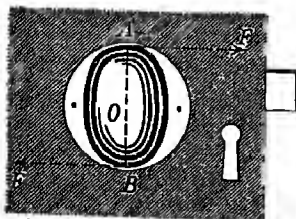

FIG. 151. A door-knob.
When two equal and parallel forces act on a body in opposite directions they tend to rotate the body. The two forces constitute a *couple*. We apply a couple when we turn a door knob to open a door (Fig. 151). The force  $F$  acting at  $A$  tends to rotate the handle clockwise about  $O$ , the moment of the force being  $F \times (AO)$ . Similarly the equal force  $F$  acting at  $B$  tends to rotate